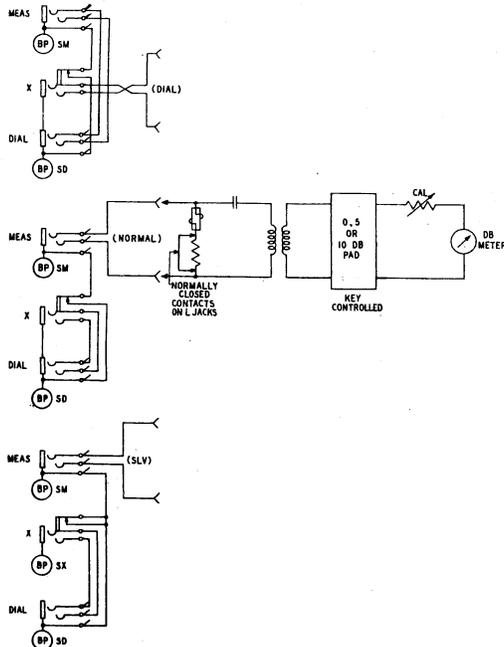

Fig. 2 - Schematic Circuit of 12A Set
2.09 The circuits of the 12A set for the three positions of the DIAL-SLV key are shown in schematic form in Fig. 2.